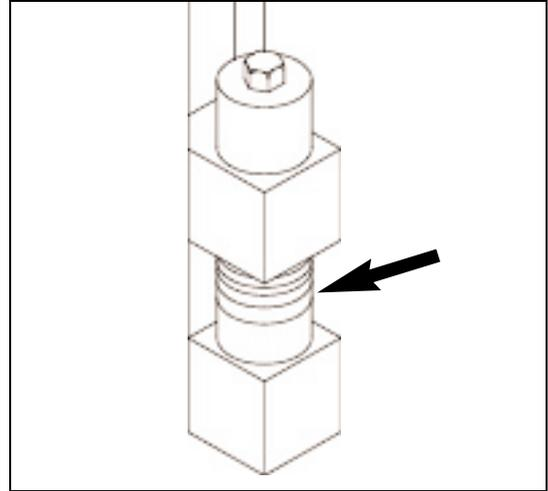

Figure 4.57 63mm (2 1/2") OF SPACERS.
e. Store spacers on bottom side of bolt for front bolts and left hand rear bolt. For right hand rear bolt store spacers on top. Tighten bolts at all 4 corners that secure mold throat plate spacers (see figure 4.57).